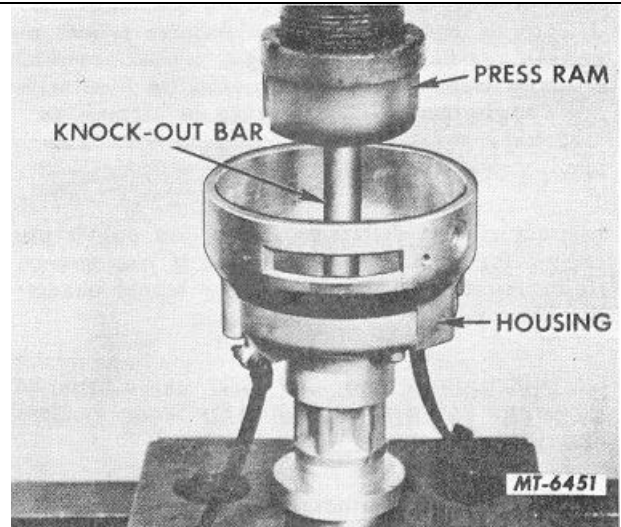

Fig. 40 Pressing Out Lower Bushing Using Knock-Out Bar
4. Place distributor housing on press bed. Insert knock-out bar through upper bushing bore and allow to rest on end of bushing remover installed in lower bushing. Pressing against knock-out bar, press lower bushing from distributor housing (Fig. 40).